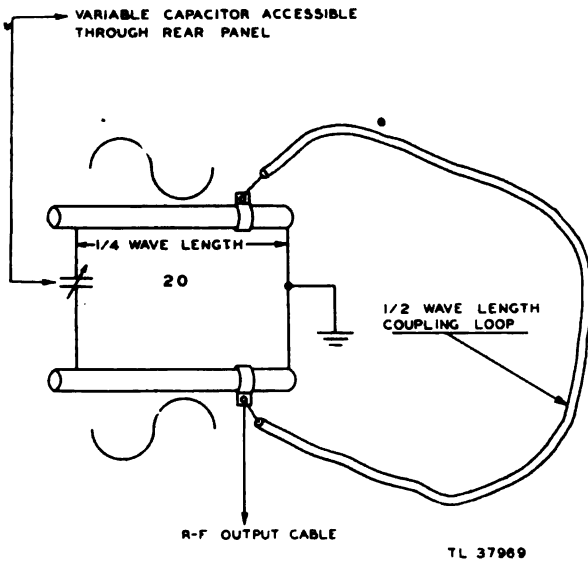

Figure 16. Antenna line.
e. *OUTPUT COUPLING.* The energy in the filament tank circuit is coupled to the r-f system by the tuned-antenna coupling line (fig. 16). The magnetic field that is set up by the r-f current in the filament tank circuit induces an r-f voltage in the coupling line. Thus, in effect, the coupling line is the tuned secondary of a transformer of which the filament tank circuit is the tuned primary. The capacitor placed across the open end of the coupling line is variable and permits the line to be adjusted to the transmitter frequency for maximum transfer of energy. This is a screw driver adjustment (antenna capacitor D) in the rear panel.
f. **COUPLING LOOP.** Since the filament tuned circuit is a quarter-wave parallel wire transmission line, the voltages and currents on one of the lines will be  $180^\circ$  out of phase with those on the other line. Consequently, due to the placement of the coupling line, the voltages and currents on each half of it will also be  $180^\circ$  out of phase (fig. 16). In order to have the energy
g. **R-F OUTPUT CABLE.** The r-f output cable is a coaxial cable tapped to the antenna coupling line at the same point as one end of the coupling loop (fig. 16). This point is chosen where the impedance is such as to match the impedance of the transmission line and thus obtain maximum transfer of energy. This tap is adjustable and the tap-off point is determined by the manufacturer for all frequencies and indicated on the